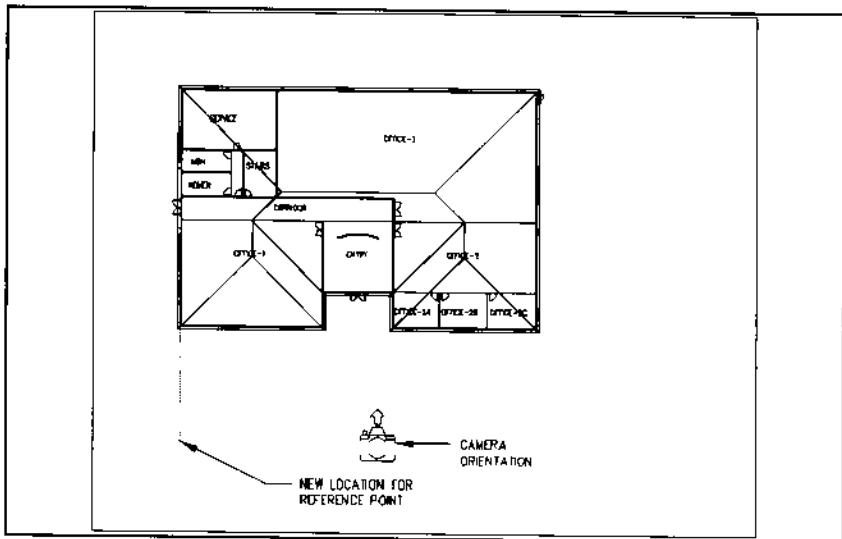

Figure 5.
7. A rubberbanding line appears prompting for a new location (where the draft elevation will be drawn). Extend the line to an area below the floor plan as shown in Figure 5.
8. The command then displays a camera icon, requesting a point and orientation for setting the viewing angle that the elevation is viewed from as shown in Figure 5.
- > Pick new location for reference point <56'-4", -6'-1", 0": [select new point as shown in Figure 5]
- > Pick insertion point: [place the camera as shown in Figure 5]